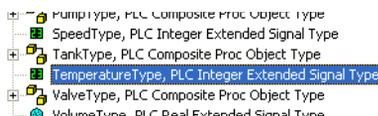

Figure 29. Selected Signal Type
2. Select the PLC branch object, and then a signal type. In this example, 'TemperatureType' is selected, see also Figure 29.